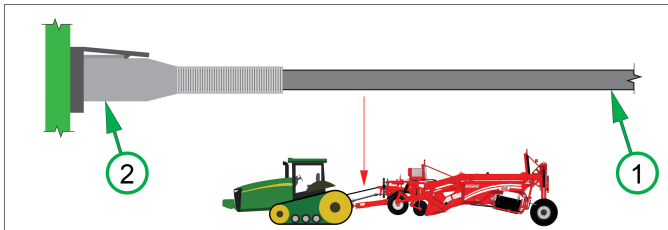

Figure 5
Connect the (2) Tractor Lighting connector on the windrower (1) Tractor Lights cable into the Tractor Lights port on the back of the tractor. (See Figure 5)